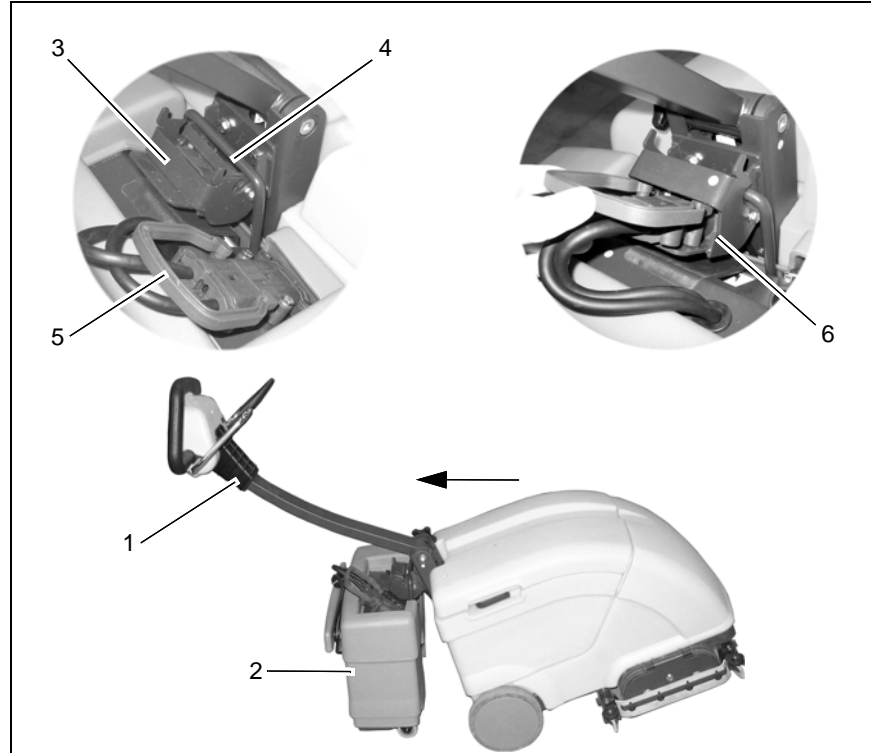

Fig.3
5. Tip the machine back a little using the shaft (Fig. 3/1) so that it is against the Power Pack (Fig. 3/2).
6. Slide the bracket (Fig. 3/3) in the support (Fig. 3/4) of the Power Pack.
8. Connect the battery plug (Fig. 3/5) from the Power Pack in the socket (Fig. 3/6) on the Port A Scrub.